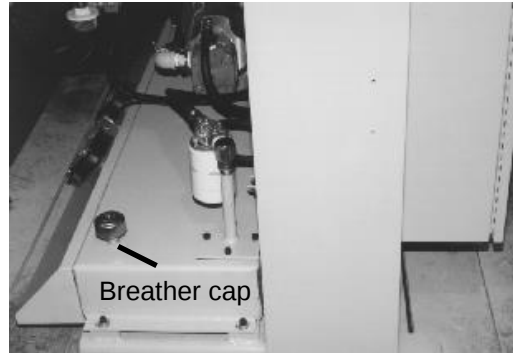

Figure 30
2. Remove the hydraulic breather cap (see Figure 30). Access the breather behind a cover plate on the hydraulic power unit cover.